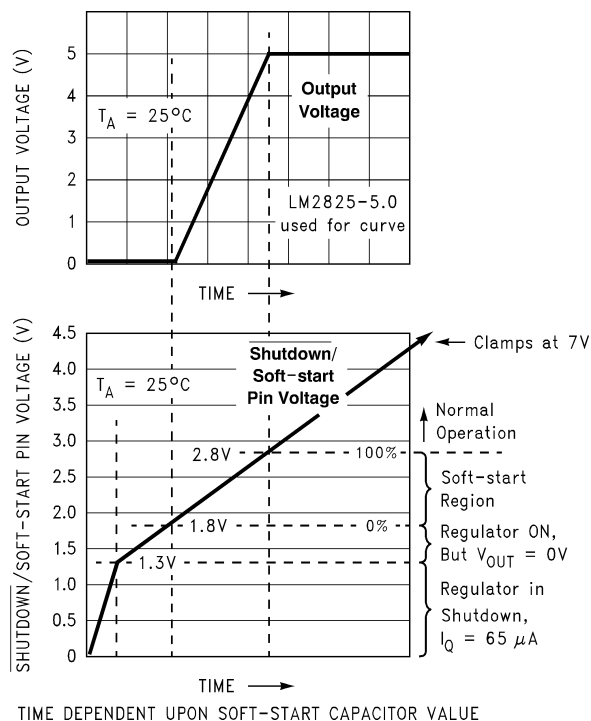

FIGURE 10. Soft-Start and Output Voltage Waveforms
A capacitor on the $\overline{SD}/SS$ pin provides the regulator with a Soft-start feature (slow start-up). When the DC input voltage is first applied to the regulator, or when the Shutdown/Soft-start pin is allowed to go high, a constant current (approximately $5\ \mu\text{A}$) begins charging this capacitor. As the capacitor voltage rises, the regulator goes through four operating regions (see the bottom curve in *Figure 10*).
3. **Soft-start Region.** When the $\overline{\text{SD/SS}}$ pin voltage is between 1.8V and 2.8V (@ 25°C), the regulator is in a Soft-start condition. The output (pin 4–8) duty cycle initially starts out very low, with narrow pulses and gradually get wider as the capacitor $\overline{\text{SD/SS}}$ pin ramps up towards 2.8V. As the duty cycle increases, the output voltage also increases at a controlled ramp up. See the top curve in Figure 10. The input supply current requirement also starts out at a low level for the narrow pulses and ramp up in a controlled manner. This is a very useful feature in some switcher topologies that require large startup currents which can load down the input power supply.
Note that the lower curve shown in Figure 10 shows the Soft-start region from 0% to 100%. This is not the duty cycle percentage, but the output voltage percentage. Also, the Soft-start voltage range has a negative temperature coefficient associated with it.